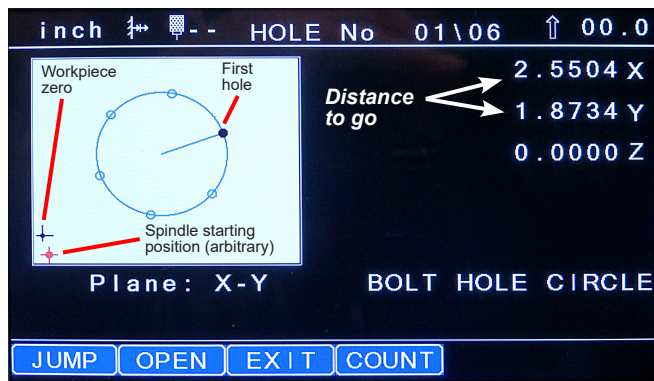
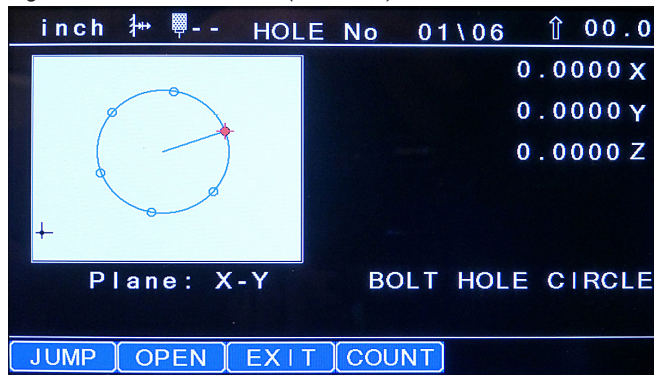

Figure 8 First hole location (No. 1 of 6)
Figure 9 Spindle moved to first hole location
- Select **RUN** on the soft menu to display the macro, Figure 8:
Select **RUN** on the soft menu to display the macro, see also Figures 8 and 9. Press the right toggle ► to step through the macro, moving the table at each step to zero X and Y.
Figure 15 Screen shot of Line Hole drilling Example (1) The figures 8, 8 at lower left indicate the zoom level of the display. Press the Up arrow ▲ to enlarge the view, Figure 9. Press the Down arrow ▼ to reduce.